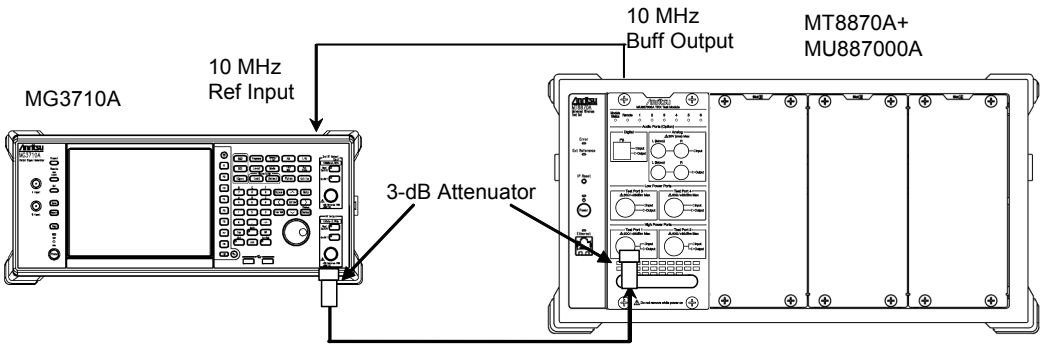

Figure 5.3.3-1 Setup for Measuring Amplitude Measurement Accuracy
1. Setup the instruments as shown in Figure 5.3.3-1.